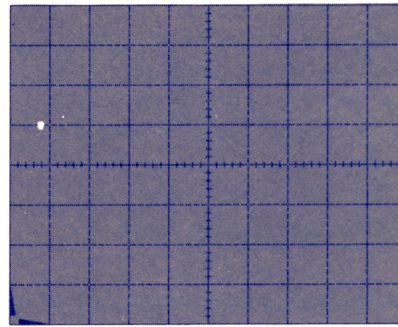

Figure 6-1. Typical collector-emitter saturation voltage V_{CE} (SAT) display.
- 2) Apply power to device – Position LEFT-RIGHT switch on 177 to appropriate side. If necessary, press and hold INTERLOCK [not required]. *Slowly* increase VARIABLE COLLECTOR % supply until specified collector current (vertical) is attained. [5divs vertical]. See figure 6-1. 34 35 8